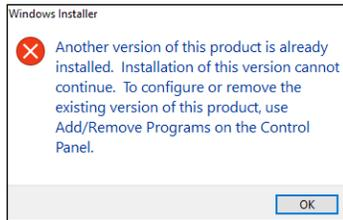

Figure 2: Installation Error Message
2. Run the **DirectShearSetup** file and follow the prompts on the screen. The software should detect any previous versions and uninstall them automatically. If a Windows Installer message appears (Figure 2), follow the prompts and uninstall the previous version of the software. Once installation is complete, close the installer.